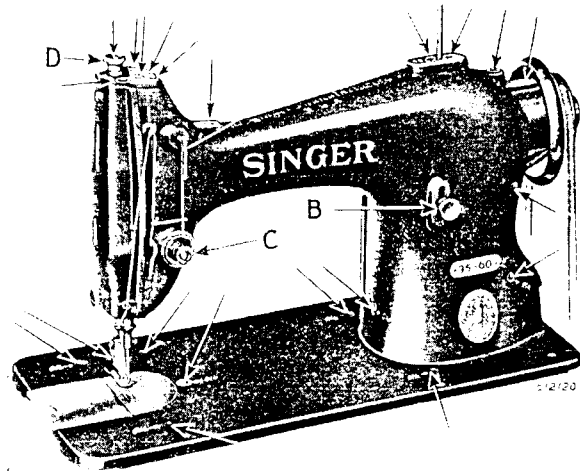

FIG. 2. OILING POINTS AT FRONT OF MACHINE
Oil should be applied at the places indicated by arrows in Figs. 2, 5 and 6, and when the machine is in continuous use it should be oiled at least four times each day. All wicking must be kept saturated with oil.
The tension on the needle thread should only be regulated when the presser foot is down. Having lowered the presser foot, turn the small thumb nut (C, Fig. 2) at the front of the tension discs over to the right to increase the tension. To decrease the tension, turn this thumb nut over to the left.
The length of stitch is regulated by the thumb screw (B, Fig. 2) in the slot on the front of the upright part of the arm. To lengthen the stitch, loosen this thumb screw and move it downwardly. To shorten the stitch, loosen this thumb screw and move it upwardly. When the desired length of stitch has been obtained, tighten the thumb screw (B).
The pressure on the material is regulated by the thumb screw (D, Fig. 2). To increase the pressure, turn this thumb screw over to the right. To decrease the pressure, turn this thumb screw over to the left.